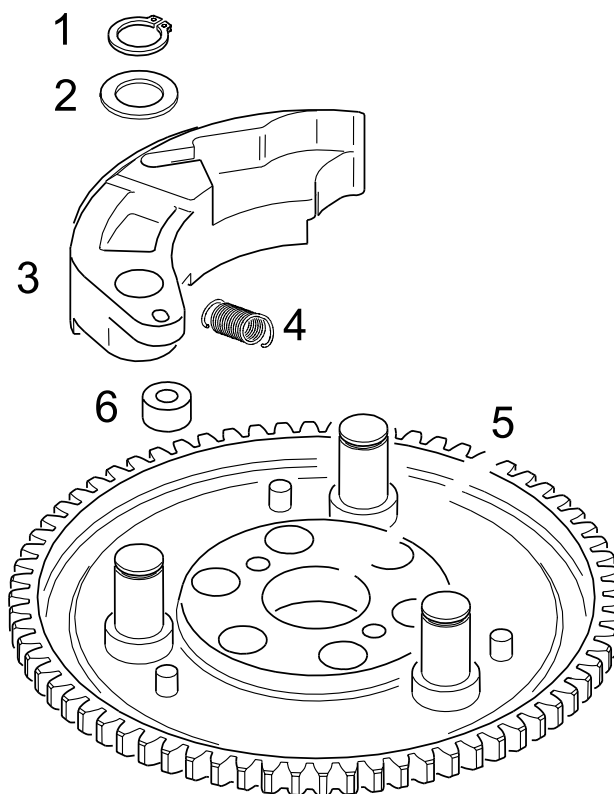

Figure 35
- ⇒ Place the 3 rubber sleeves (6) on to the supporting pins on the starter gear (5) (see fig 35)
- ⇒ Fit the 3 fly weights (3) on the bearing pins of the starter gear (see fig 35)